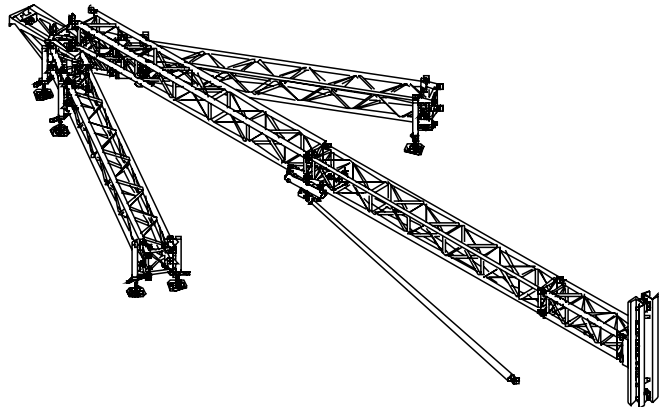

figure 9
**7** Attach the stabilizer tubes (RT-T60-CC298CC). See figure 9.